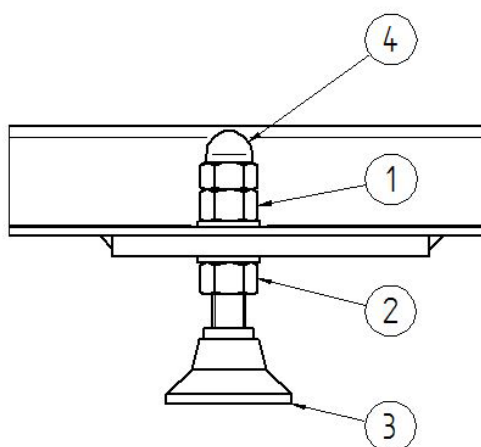

Fig. 9 – Mounting without foundations (schematic diagram)
2. Install the levelling feet as shown in Fig. 9